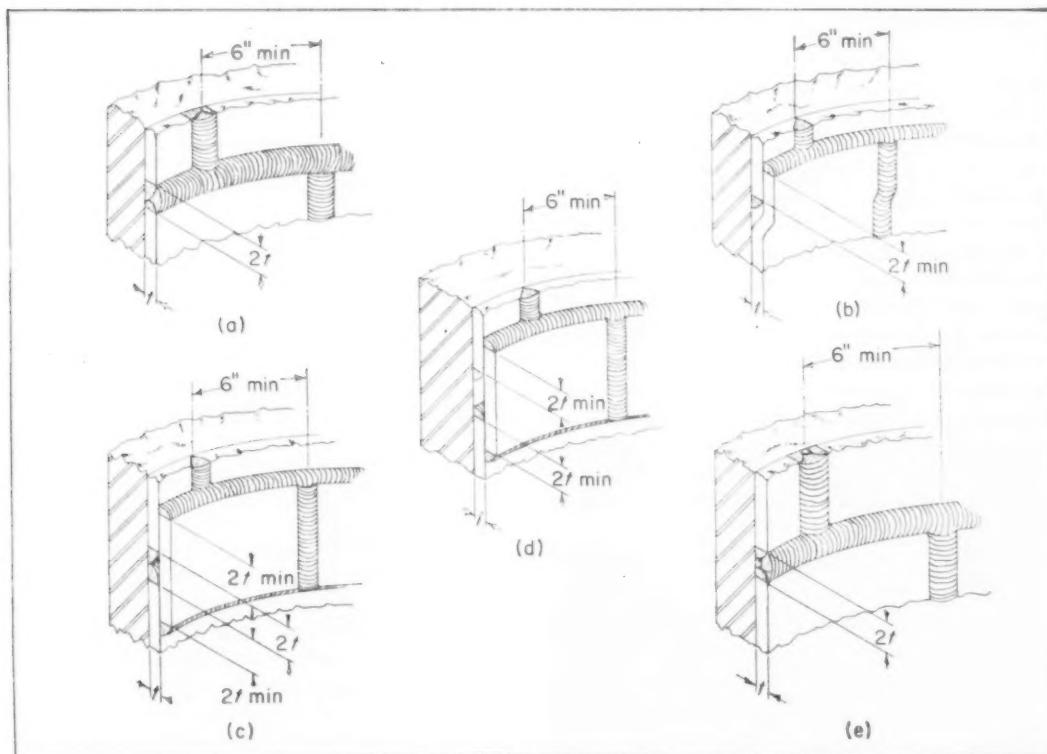

Fig. 2. Types of welds in fabricating superalloy lined vessels. Contamination of the weld bead by vessel
**Linings:** For lining vessels with the Ni-Mo or Ni-Mo-Cr alloys, the welding techniques illustrated in Fig. 2 have been used. In more severe corrosion applications, methods *b*, *c*, and *d* have proved most satisfactory because they eliminate any possibility of base-metal dilution. Method *b* is excellent for position welding because the overlap forms a ledge which facilitates deposition of the weld metal. As a result, this type of weld can be made in the field, as well as in the shop. Methods *b*, *c*, and *d* are economical because the welds which are not exposed
The end butt welds are generally vertical and should be staggered as illustrated in *Fig. 2*. When using methods *b*, *c*, and *d*, the butt welds should not be bonded to the base metal but care should be taken to obtain as deep penetration as possible without causing dilution of the alloy weld bead. Methods *a* and *e* are also satisfactory if care is taken in making the final cover weld to prevent base-metal dilution. These are both flat position welding methods, however, and should be made in a shop where suitable fixtures and jigs for turning the vessels are available. The end-butt welds for methods *a* and *e* are made using the same technique as is shown for the edge welds. These end welds may either be made by vertical "up" or vertical "down" welding.